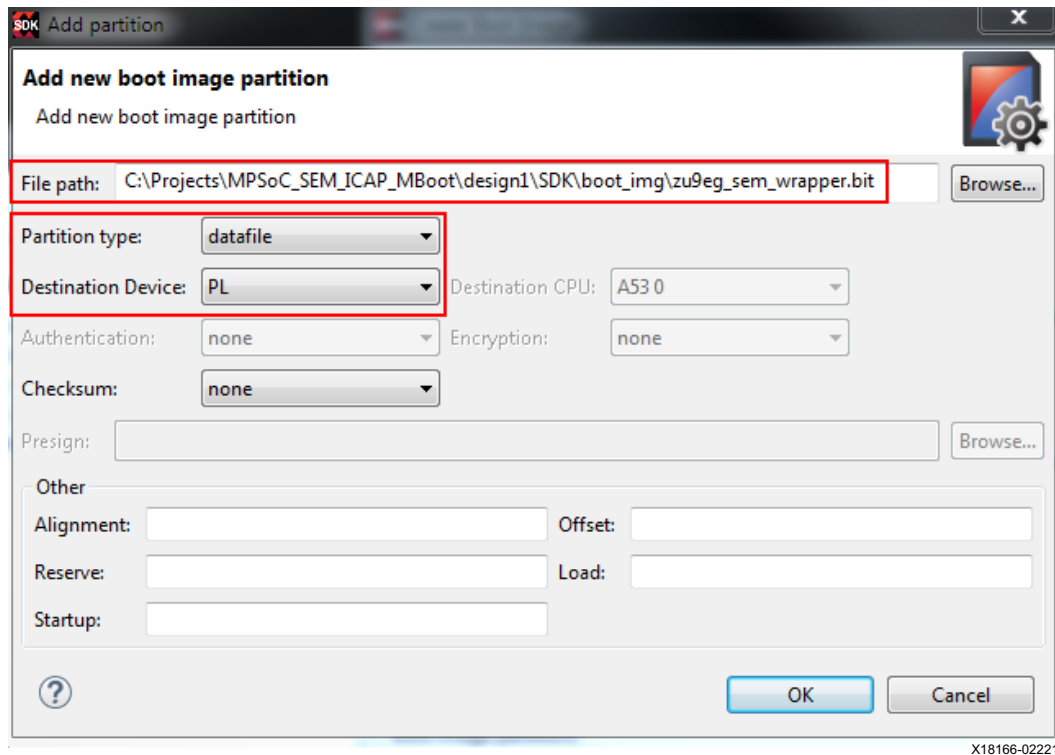

Figure 15: Design 1 - BIT Partition
- b. Verify the Partition type is **datafile** and the Destination Device is PL. See Figure 15.